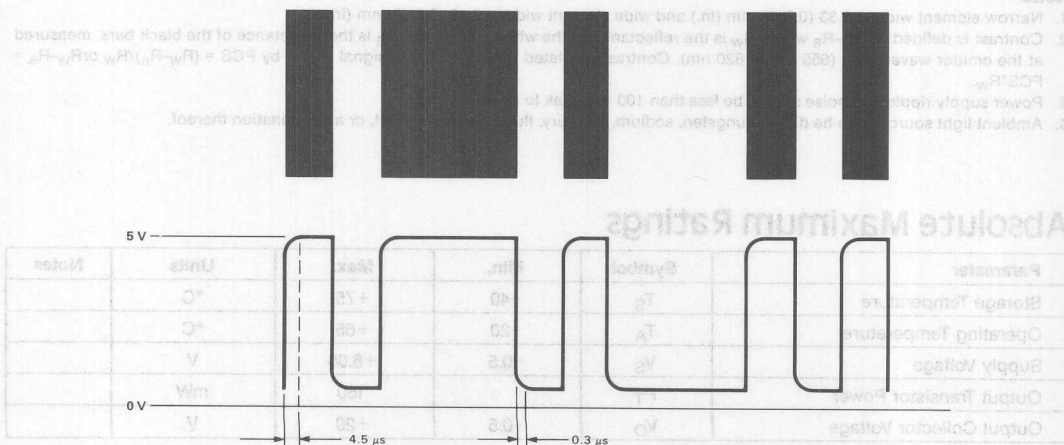

Figure 1. Typical Output Waveform
A non-reflecting black bar results in a logic high (1) level output; while a reflecting white space will cause a logic low (0) level output (see Figure 1). The initial state will be indeterminate. However, if no bar code is scanned, after a short period (typically less than 1 second), the wand will assume a logic low state. This feature insures that the first bar will not be missed in a normal scan, and allows for combining several wands by simple parallel wiring.
7. 10% to 90% transition. 1 k $\Omega$  pull-up resistor. See Figure 1.